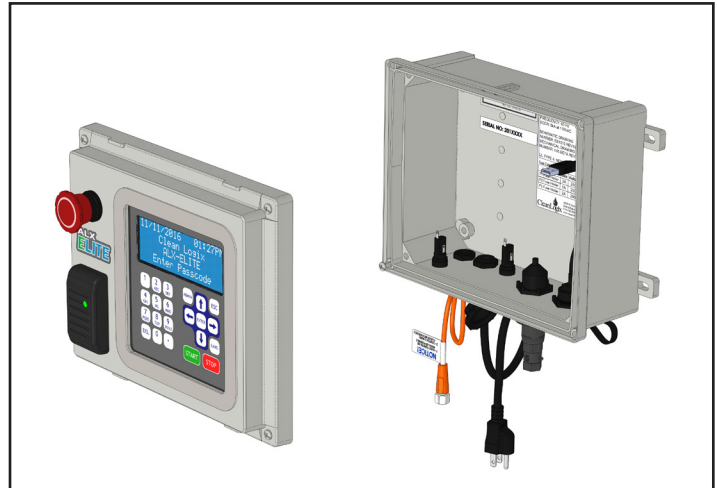

Figure 31.1: Removing enclosure cover
2. Remove the 4 screws at each corner of the enclosure and gently lift the top of the controller from its base [Figure 31.1].